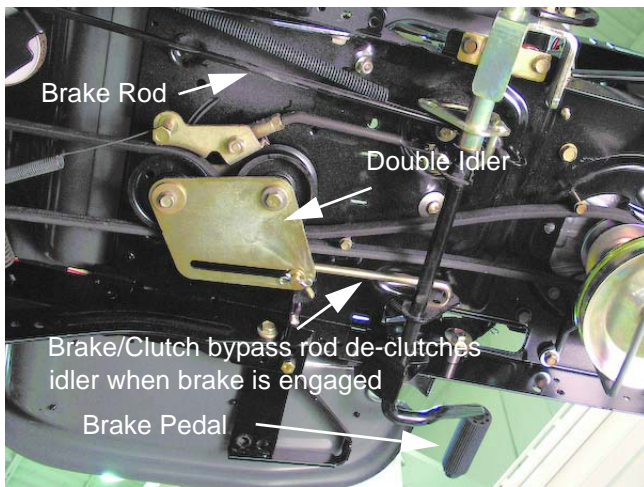

Figure 5.3
- 3a. The brake linkage applies the brakes and dis-engages the drive belt. Confirm that both parts of the linkage are moving properly. See Figure 5.3.